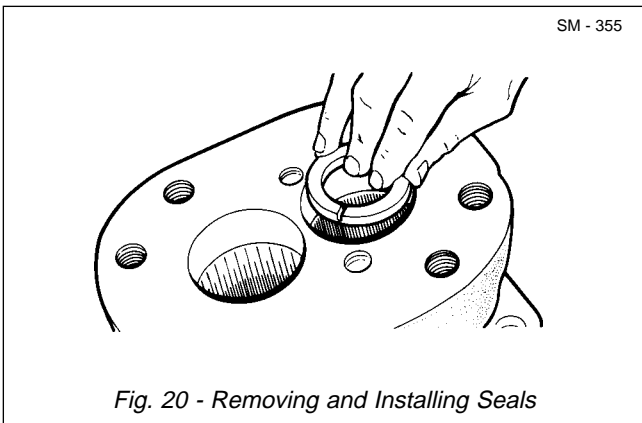

Fig. 20 - Removing and Installing Seals
1. If removed, install new plug (7) in shaft end cover (6). Be sure to install plug in the outlet side of shaft end cover (6). The unplugged drain hole must be on the inlet side of shaft end cover (6). Turn plug (7) in until one thread of the hole is visible. Secure plug (7) by staking around the hole with a punch.
2. If removed, install ring seals (8) into the bearing bores in shaft end cover (6), bearing carrier (18) and end cover (23). The notch in the ring seal must be visible. See Fig. 20.